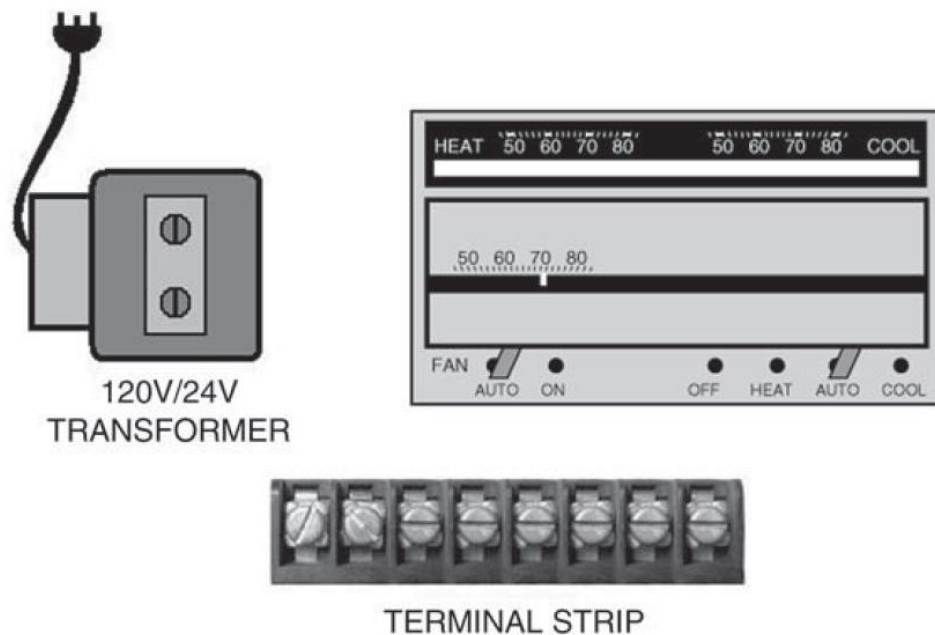

Figure 1 ■ Transformer, Thermostat, and Terminal Strip Layout
2. Mount the thermostat, transformer, and terminal strip on the project board as illustrated in Figure 1.